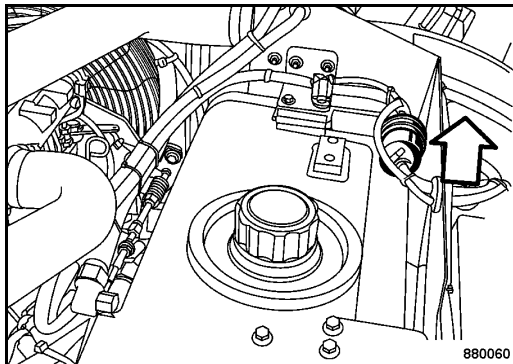

Fig. 155
- Loosen the hose clamps (Fig. 155).